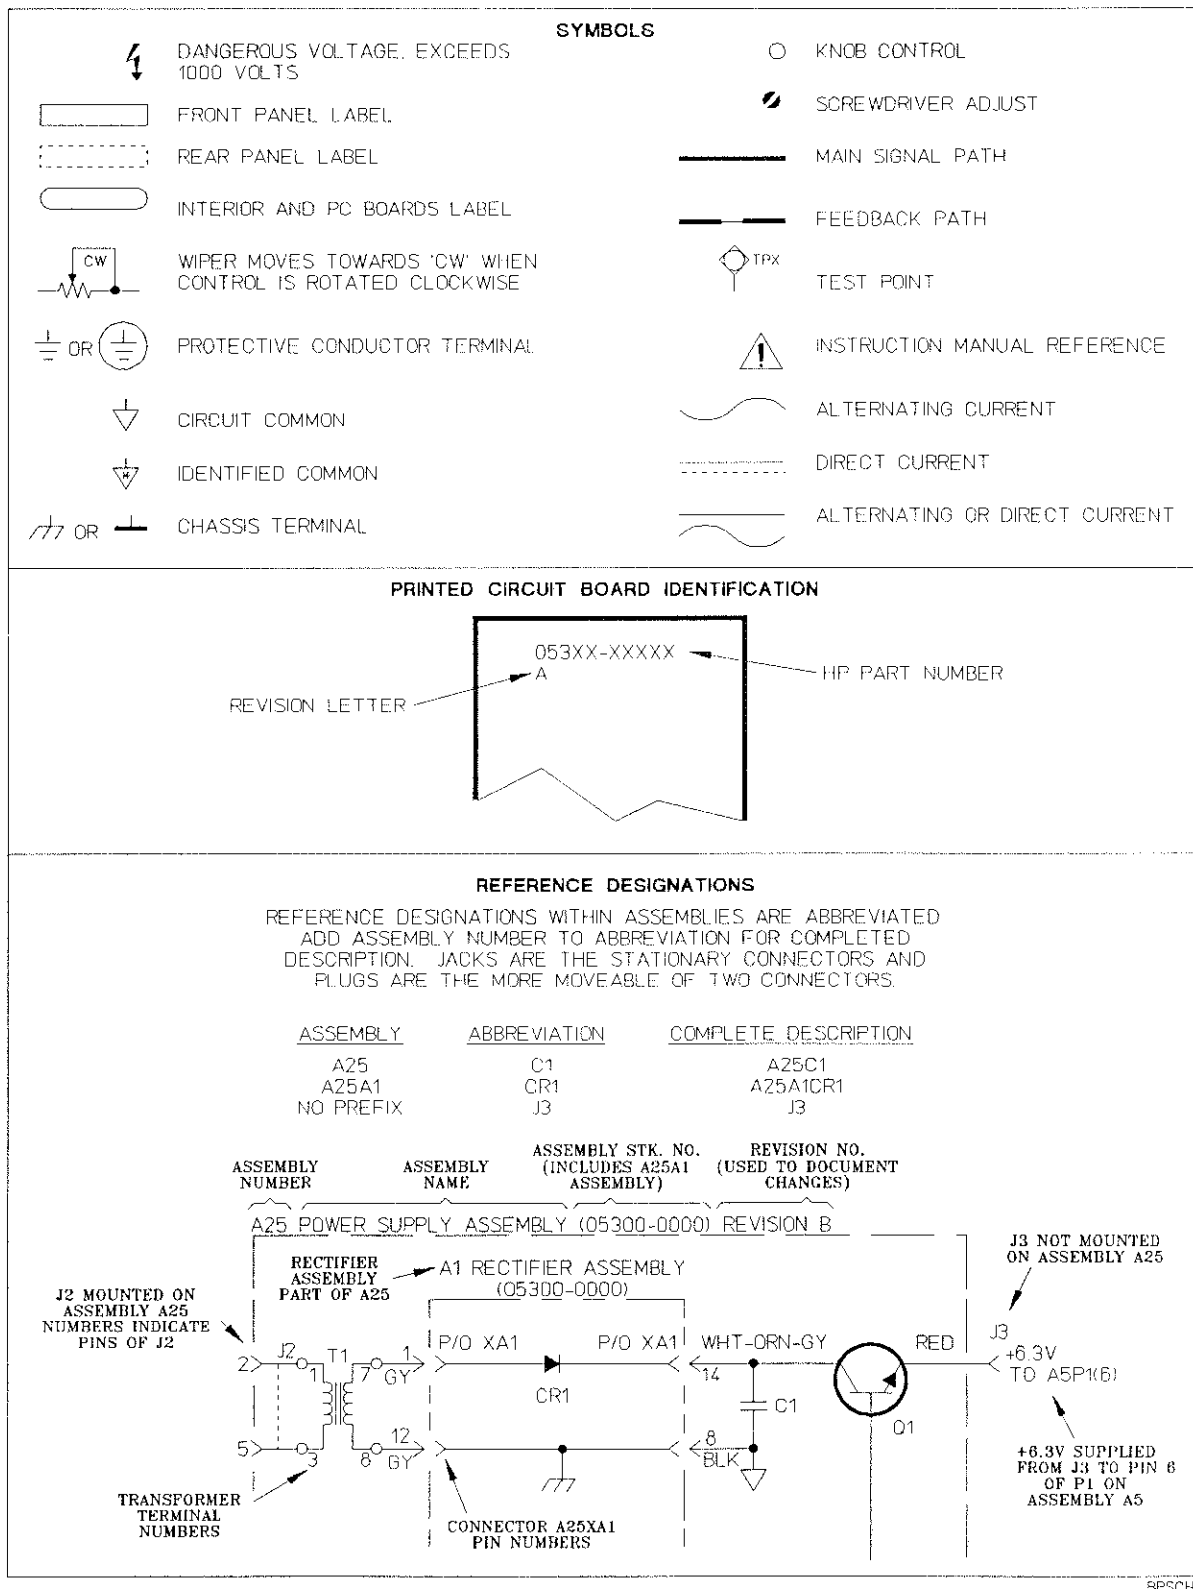

Figure 1-1. Schematic Diagram Notes
*Figure 1-1* shows the various common symbols used on the schematic diagrams. At the bottom of *Figure 1-1*, the identification system for reference designators, assemblies, and subassemblies is shown.
Reference designators are assigned to indicate the class and the location of printed circuit assemblies (boards), subassemblies (if any), and all of the component parts, as shown in the example in *Figure 1-1*. Assemblies are assigned numbers in sequence — A1, A2, etc. Component parts are numbered in sequence, from left to right, top to bottom, according to the physical location on the assembly.
Subassemblies within an assembly are given a subordinate "A" number. For example, the rectifier subassembly A1 of *Figure 1-1* has a complete designation of A25A1. For individual components, the complete designation is determined by adding the assembly number and subassembly number, if any. For example, CR1 would have a complete reference designator of A25A1CR1.